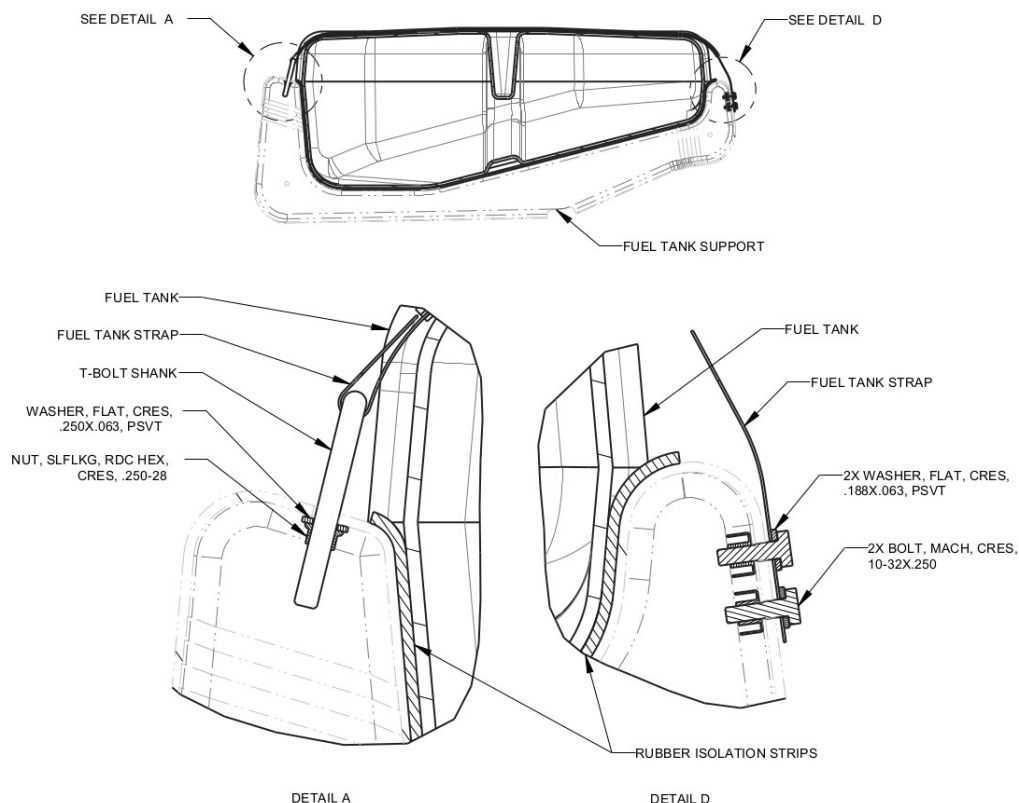

FIGURE 10-6
1. Ensure isolation strips are properly aligned on fuel tank support structure. (See Figure 10-6.)
3. Attach the fuel tank strap subassemblies to AFT end of fuel tank support brackets using LUBRICANT and hardware. (See Figure 10-6. Detail D.) Torque bolts to 26 in-lb.
4. Loosely secure the forward ends of the fuel tank straps to the fuel tank brackets using LUBRICANT and hardware. (See Figure 10-6. Detail A.)